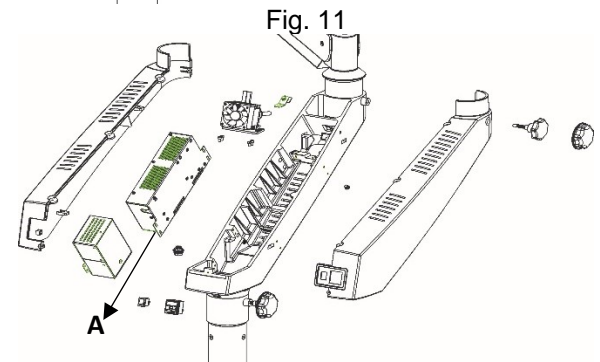

Fig. 12
- Remove the swivel arm covers by unscrewing the screws in top and bottom as shown in Fig. 12.
- Remove the connections on the power supply and replace the illumination assembly **(A)** in Fig. 12 with a new assembly and refix the connections.